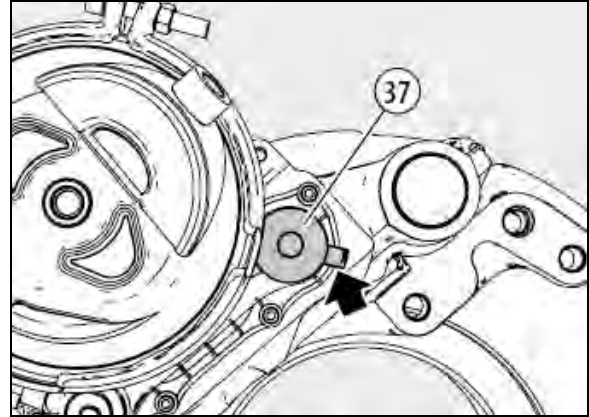

**FIGURE 44: APPLY THE BRAKE 5-10 TIMES, SPANNER TURNS CLOCKWISE**
15. As a visual aid, position a ring spanner or socket onto the adjuster (including Adapter (61)) as shown. Apply the brakes 5 to 10 times, the spanner or socket should turn clockwise (viewed from actuator side) in small increments if the adapter is functioning correctly (see Figure 44 and note below).